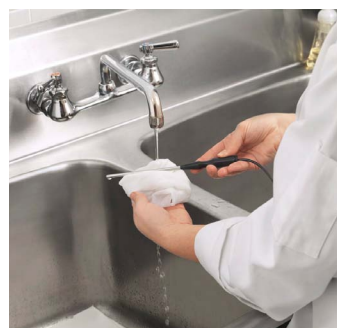

fig. 2
2. Wash/sanitize probes (fig. 2). Probes can be totally immersed in water during cleaning.